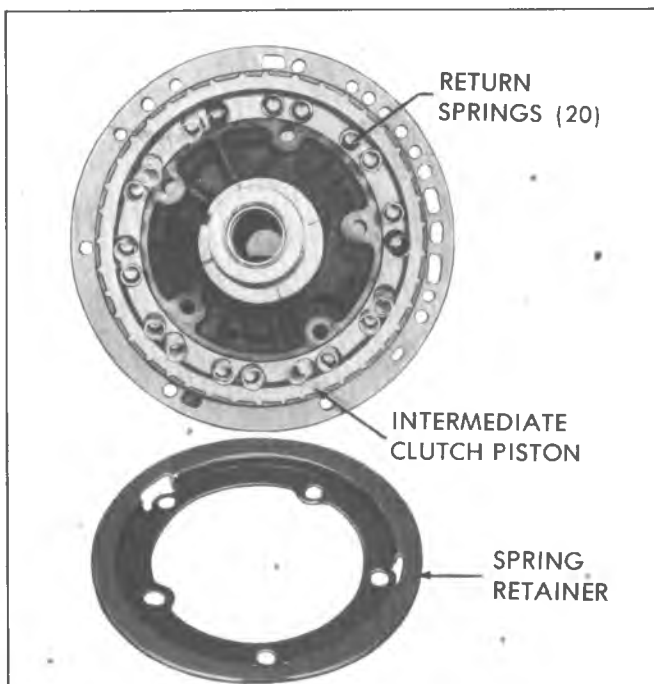

Fig. 56M--Intermediate Clutch Spring Retainer, Return Springs and Piston
3. Remove intermediate clutch spring retainer, twenty(20) intermediate clutch return springs and the intermediate clutch piston assembly (fig. 56M).